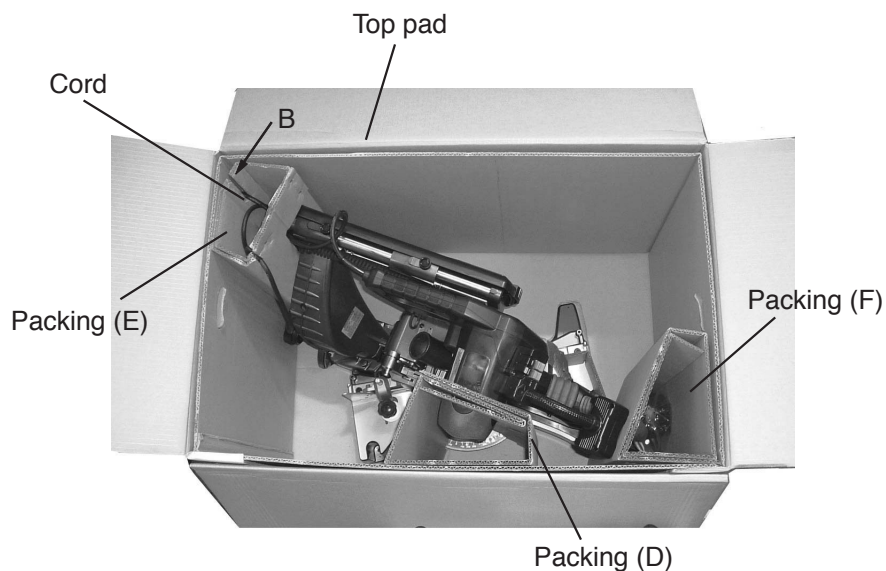

Fig. 56
(4) How to install the top pad
Put the top pad on packing (D), packing (E) and packing (F). Close the lids of the carton box and bind them together (Fig. 56).